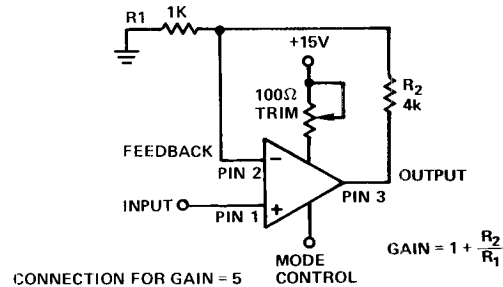

Figure 3.
2. Figure 3 shows feedback connections for noninverting operation with potentiometric gain. When the indicated values are installed, gain will be +5. As in all operational amplifiers, gain-bandwidth product is a constant for a given sample-and-hold. Effective 3dB bandwidth will be inversely proportional to gain.